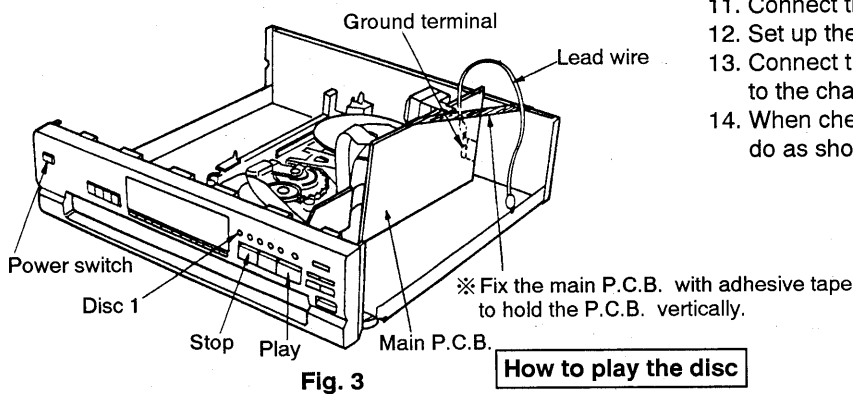

Fig. 3
14. When checking the soldered surface of the main P.C.B., do as shown in Fig. 3.